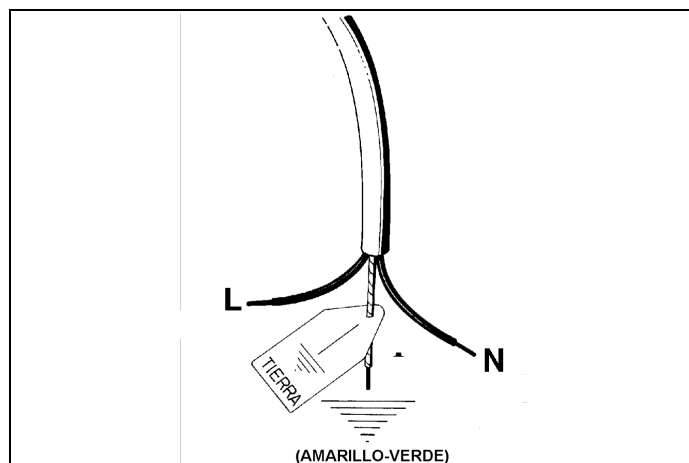

Fig. 11
- If the power cord does not already have a plug, fit a regulation plug, which must be suitable for the rated load specified on the appliance data plate. Connect the wires of the power cord in accordance with the diagram in Fig. 11, ensuring you follow the harmonized wiring color scheme: